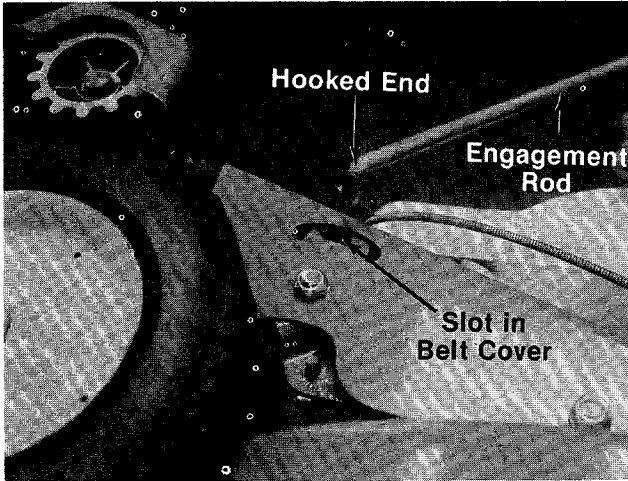

FIGURE 7.
8. Hook the end of engagement rod into idler bracket located inside slot on belt cover. See figure 7. ←